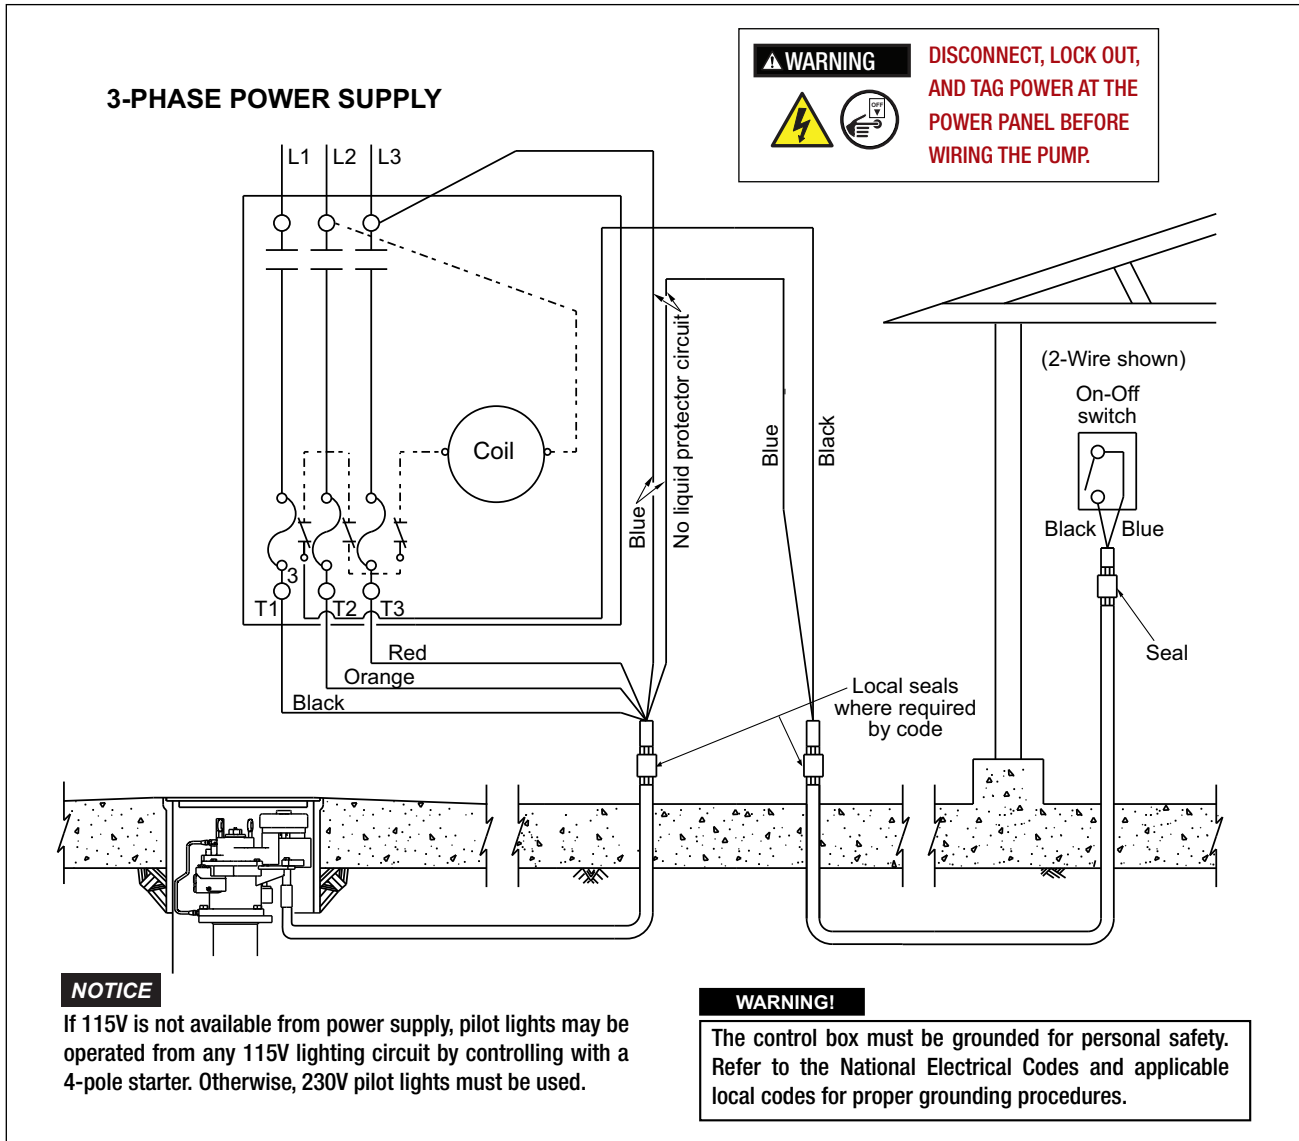
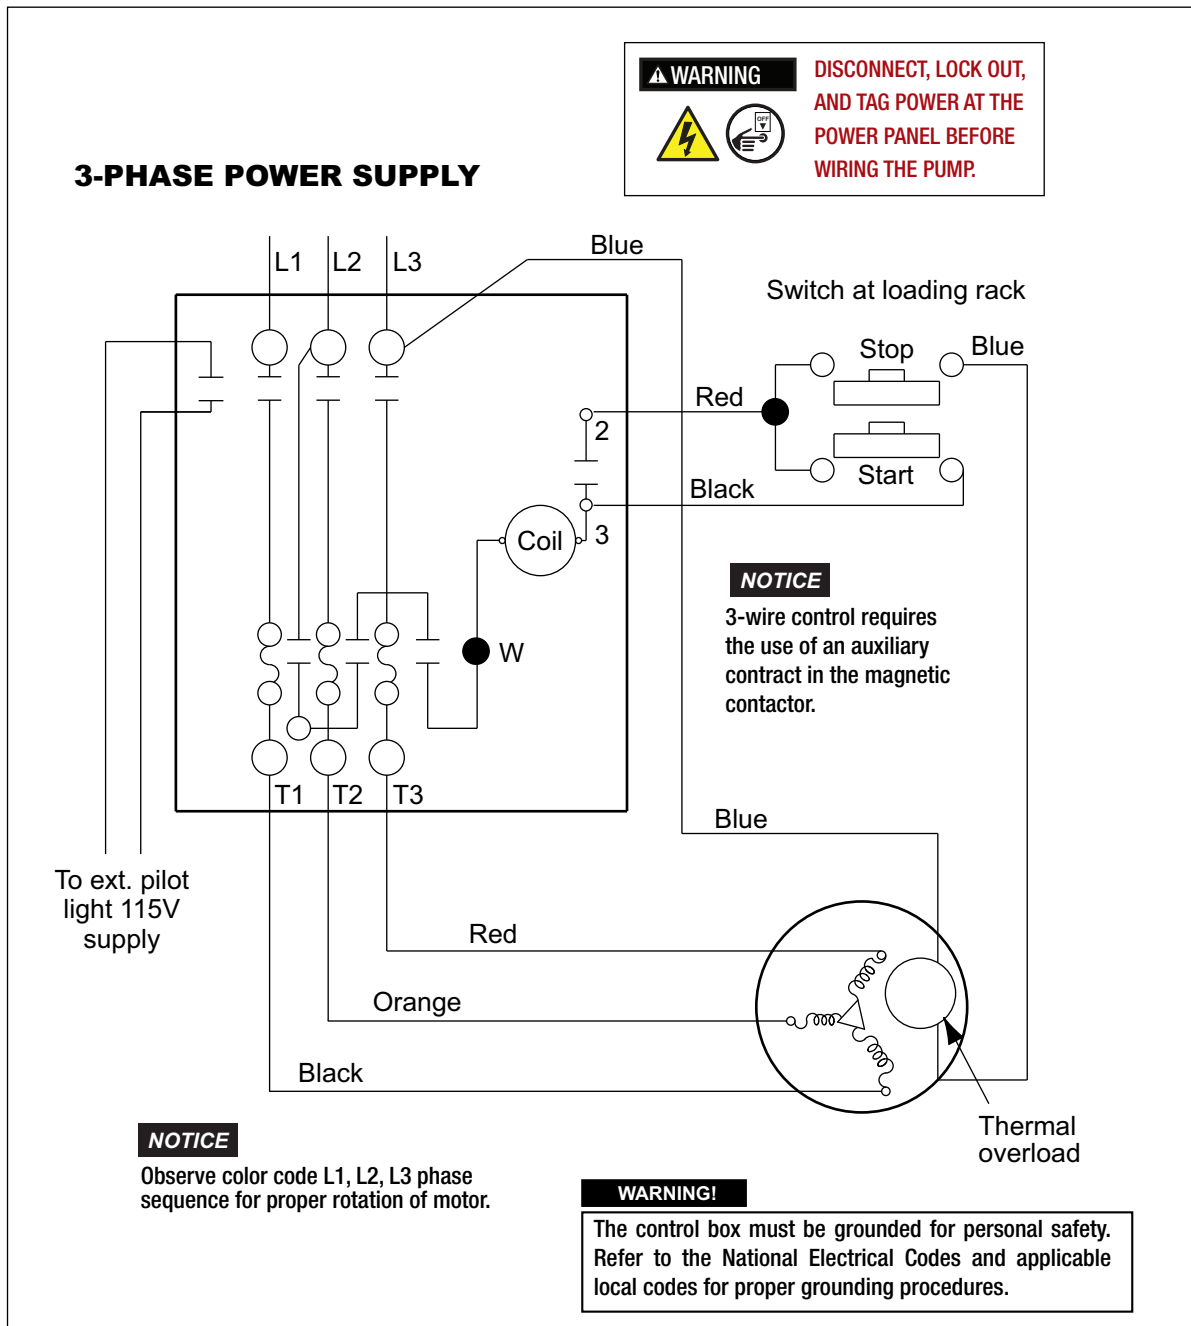

Figure 3. Representative Wiring Diagram, Three-Phase, Two-Wire Control
Figure 4. Three-Wire, Three-Phase Motor Wiring Diagram
1. Installations where the magnetic starter is located away from the loading rack in a nonhazardous location. (See Figure 3)
- b. Using properly color coded wires, connect a black wire from terminal T1 in the magnetic starter to the black motor lead, in the junction box of the proper submerged pump. Connect an orange wire from starter terminal T2 to the orange motor lead and red wire from terminal T3 to the red motor lead. (See Figure 3 and Figure 4.)
- d. Installations using loading racks only, may be connected for 2- or 3-wire control. For 3-wire control (Figure 4), connect a black wire from terminal 3 in the magnetic starter to the ‘on-off’ switch. Connect a red wire from terminal 2 in the magnetic starter to the ‘on-off’ switch. Connect either blue wire to the other side of the ‘on-off’ switch and connect the other blue wire to L1 of the magnetic starter. 3-wire control requires the use of an auxiliary contact in the magnetic starter. This auxiliary contact is standard equipment in the G.E. starters supplied by Red Jacket.
Connect the pump motor leads to terminal T1, T2 and T3 of the magnetic starter observing color code shown in Figure 3 and Figure 4. With ample product in the tank and the system purged of air, start the motor and make a pressure gauge reading of the system pressure with the discharge valves closed; or, open one valve and calculate pumping rate.